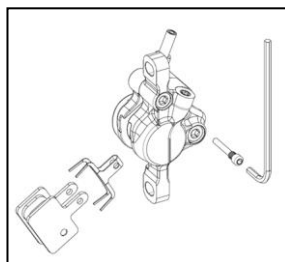

Fig. H-2 Caliper assembly
- Pull the cotter pin from the brake pad retaining bolt – be careful not to lose this piece (**Fig. H-2**)